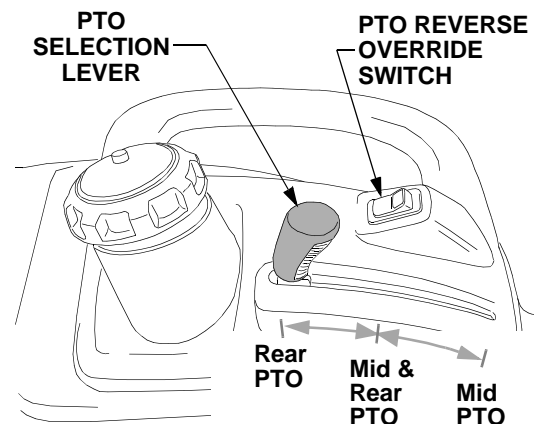

Figure 19
- Shift the PTO selection lever rearward to select the rear PTO. The rear PTO is used to drive equipment designed to operate at an input speed of 540 RPM. See Figure 19.
- Shift the PTO lever forward to select the mid PTO. The mid PTO is used to drive equipment designed to operate at an input speed of 2000 RPM. Refer to Figure 19.
- Shift the PTO lever to the middle position to select both the mid PTO and rear PTO. In this position the mid PTO and rear PTO will run simultaneously when the PTO switch is activated. Refer to Figure 19.
The PTO reverse override switch, located on the left fender, allows the PTO to operate while the tractor is traveling in the reverse direction. Refer to Figure 19.